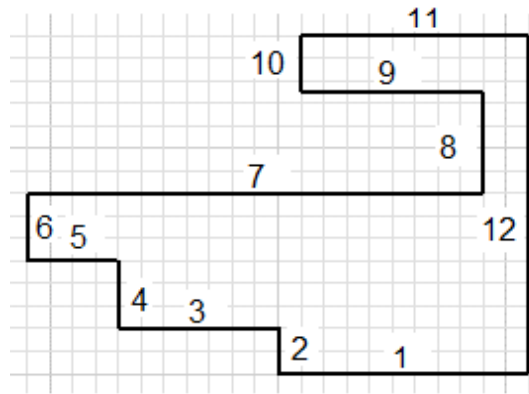

Figure 2-104 Sketch after drawing the lines
(Move the cursor toward left, enter **22** in the length input field, enter **90** in the angle input field of the Dynamic Input, and press **Enter**). Line 1 is drawn, as shown in Figure 2-104.
(Move the cursor upward in the graphics window. Next, enter **4** in the length input field, press **Tab**, enter **90** in the angle input field, and press **Enter**). Line 2 is drawn, as shown in Figure 2-104.
(Move the cursor toward left in the graphics window. Next, enter **14** in the length input field, press **Tab**, enter **90** in the angle input field in the Dynamic Input, and press **Enter**). Line 3 is drawn, refer to Figure 2-104.
2. Select the line 8 and then line 9, refer to Figure 2-104; a fillet is created between these lines and the radius of the fillet is displayed in the sketch.